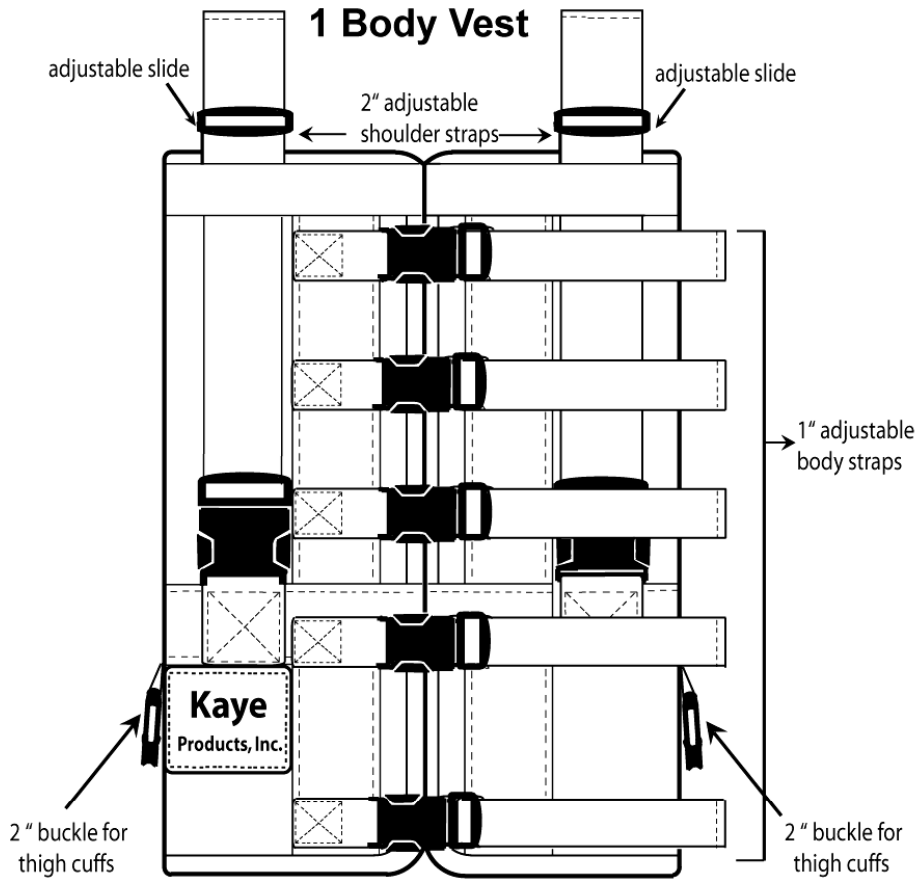

Figure 1: Front view of Body Vest (1 per harness)
2. Adjust the 1” buckles, front & back, so that the 2” buckles for the thigh cuffs (see figure 1) are **positioned symmetrically** on the **outside** of each hip. This may take several tries but this step is important.